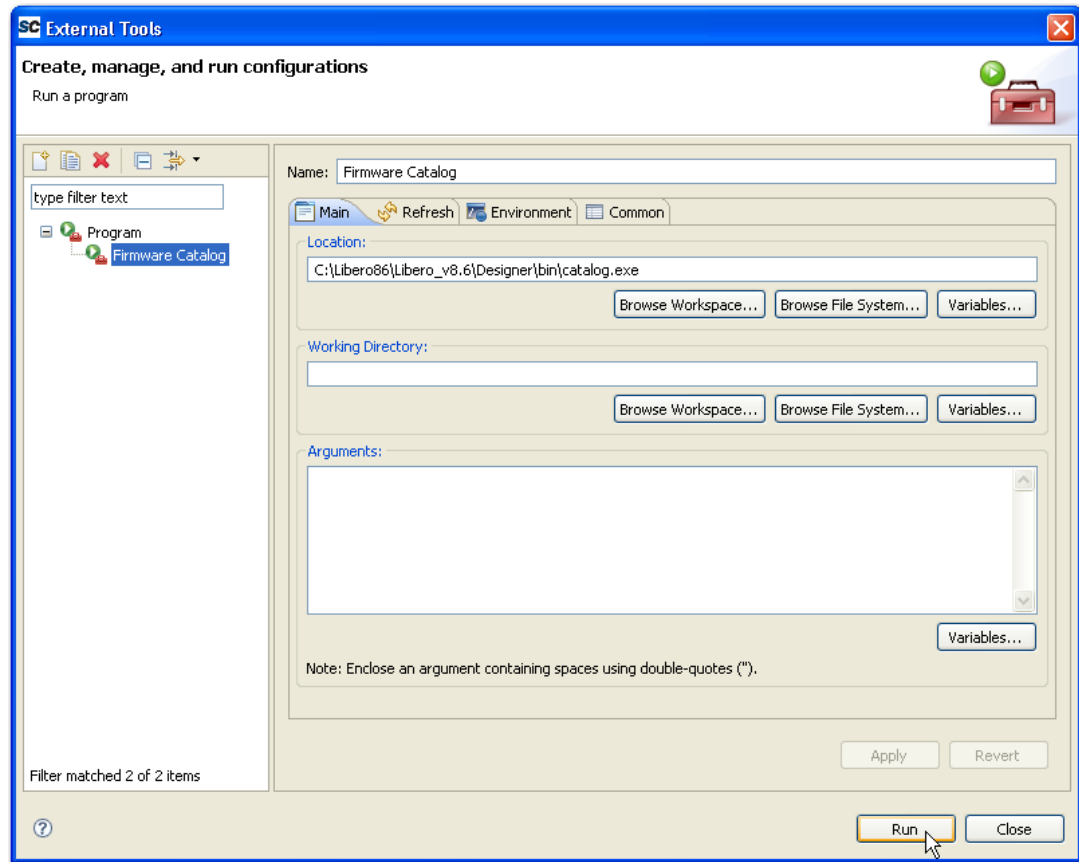

**Figure 1-5 • Create New Program**
3. The External Tools dialog will open. Right-click Program, and click **New** (Figure 1-5).